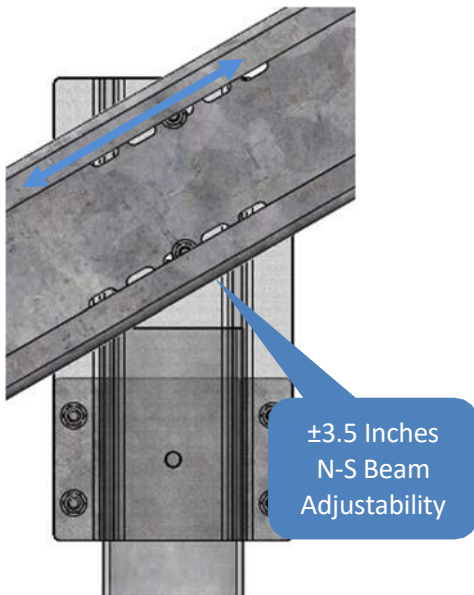

Fig. 8-2
- North – South Beam:  $\pm 3.5$  inches (89 mm) (Fig. 8-2)